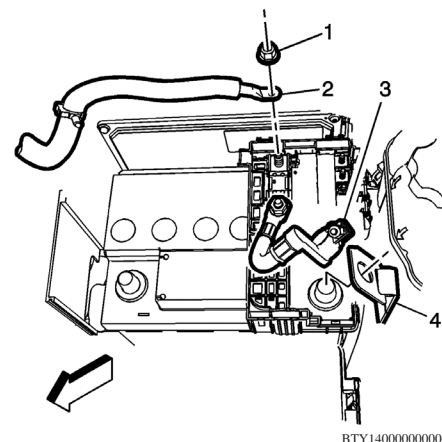

Fig. 3 Battery positive cable removal
6. Release tabs and open battery fuse block cover. Remove battery positive cable nut (1) and cable (2) from battery fuse block, **Fig. 3**.
7. Remove battery fuse block cable clamp fastener (3) and battery hold down strap (4), **Fig. 3**.
4. Install battery positive cable (2) to battery fuse block and torque nut (1) to 88 inch lbs., **Fig. 3**.
5. Install battery hold down strap (4) to
6. Install battery positive clamp to post and torque nut (3) to 44 inch lbs., **Fig. 3**.